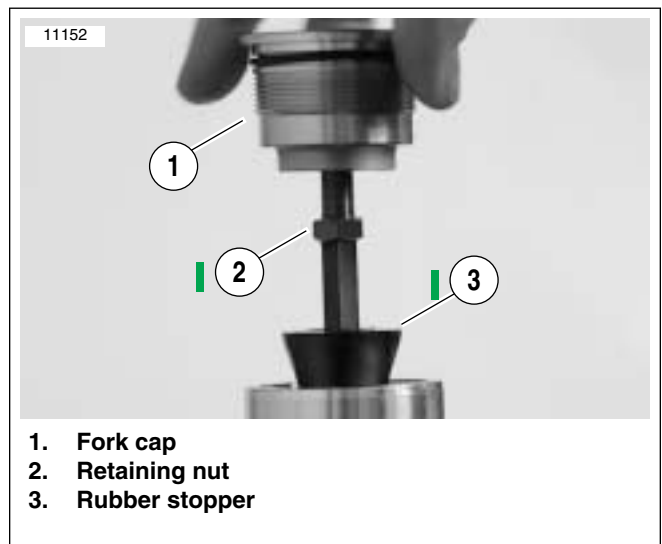

Figure 2-124. Remove Fork Cap, Retaining Nut and Rubber Stopper
- See Figure 2-124. Back retaining nut away from fork cap. Remove fork cap, retainer nut, and rubber stopper from inner fork nut threaded shaft.